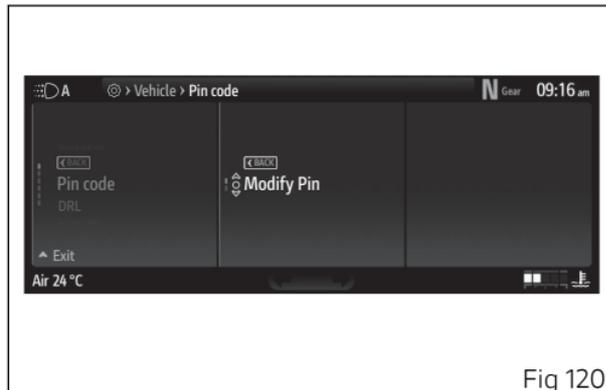

Fig 120
- Select the "Modify PIN" item (Fig 120) and press .